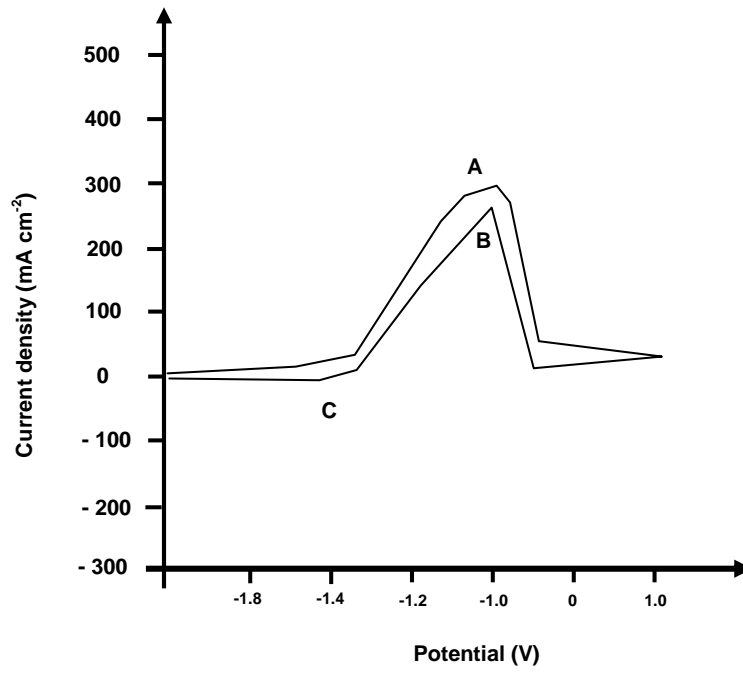

Figure 2 / Rajah 2
- (ii) Analyse and explain the cyclic voltammetry for pure zinc electrode in potassium hydroxide solution as shown in Figure 2.